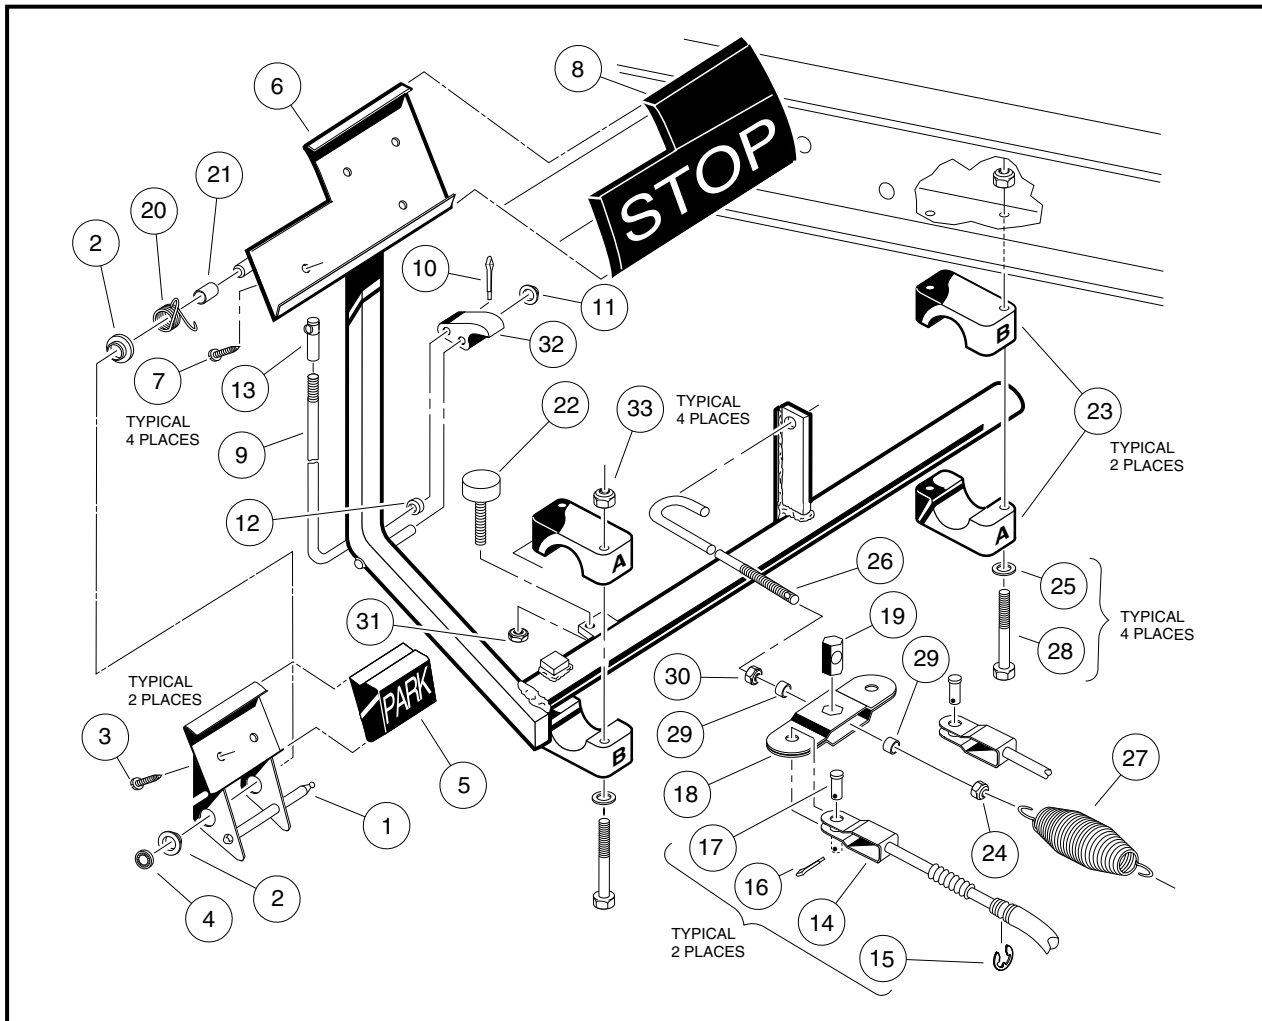
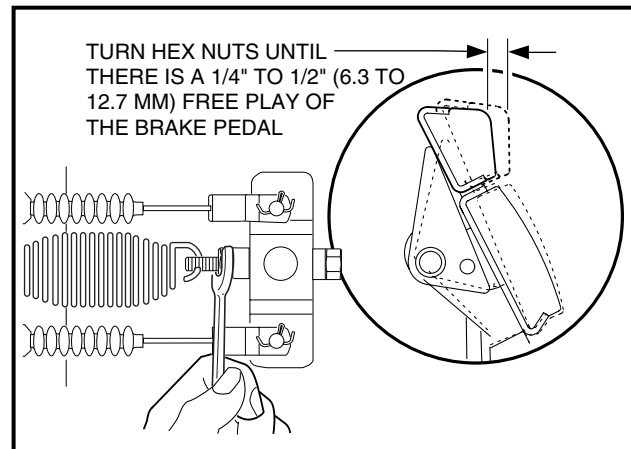

FIGURE 6-20
FIGURE 6-24
- 3.1. Disconnect the brake cables from the equalizer rod (26) (Figure 6-20, Page 26).
- 3.2. Remove the pedal return spring (27) from the equalizer rod (26) (Figure 6-20).
- 3.3. Remove the nuts (33), flat washers (25), bolts (28), and bearing blocks (23) (Figure 6-20).
- 3.4. Loosen the brake equalizer rod hex nut (24) five turns, then disconnect the rod (26) from the pedal shaft (Figure 6-20).
- 3.5. Remove the nut (31) and brake stop (22) (Figure 6-20).
- 3.6. Lift the pedal assembly (6) up through the floorboard (Figure 6-20, Page 26).
- 1.1. From the top side of the floorboard, insert the brake pedal weldment assembly (6) (Figure 6-20) through the opening in the floor as shown (Figure 6-21, Page 27), and install the pedal stop (22) (Figure 6-20) on the weldment.
- 1.2. Attach the equalizer rod (26) to the brake pedal weldment assembly (6) as shown (Figure 6-20).
- 1.3. Position and attach the brake pedal assembly and mounting blocks (23) to the vehicle frame as shown. Tighten the bolts and nuts to 40-60 in.lbs. (4.5/7 N-m) (Figure 6-20). See NOTE below.
- EACH HALF OF EACH MOUNTING BLOCK ASSEMBLY IS MARKED WITH AN **A** OR **B**. THE HALVES MARKED **A** SHOULD BE ORIENTED TO THE TOP LEFT HAND AND BOTTOM RIGHT HAND SIDES OF THE BRAKE PEDAL ASSEMBLY, AND THE HALVES MARKED **B** SHOULD BE ORIENTED TO THE TOP RIGHT HAND SIDE AND BOTTOM LEFT HAND SIDE OF THE BRAKE PEDAL ASSEMBLY (FIGURE 6-20, PAGE 26).
- 1.4. Install the brake cables (14) on the equalizer rod using **new** cotter pins (16) and the clevis pins (17) that were removed when the brake pedal assembly was disassembled (**Figure 6-20**). Tighten the nut (24) on the equalizer rod so that brake pedal free-play is 1/4 inch to 1/2 inch (6.35 mm to 12.7 mm) (**Figure 6-24, Page 28**). See **NOTE** below.
- 3.1. To remove the park brake rod and pawl assembly (9 through 13 and 32), remove the push-on nut (11) and disconnect the ball joint sleeve (13) from the park brake pedal (1). Remove the ball joint sleeve (13) from the rod and pawl assembly (**Figure 6-20**). **See NOTE below.**